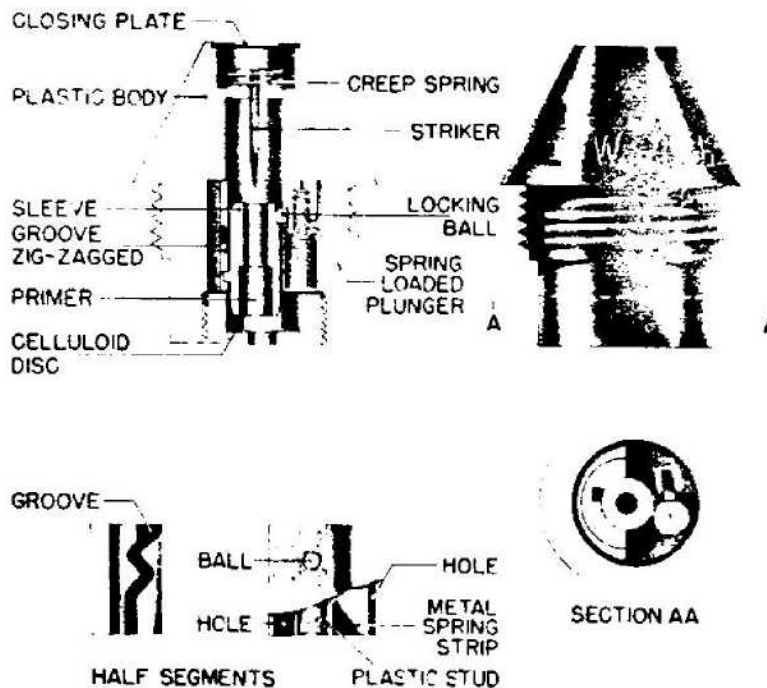

Figure 590—Wgr. ZT. acb
**EMPLOYMENT:** Plastic nose fuze in German 8-cm smoke mortar shells. (See fig. 590.)